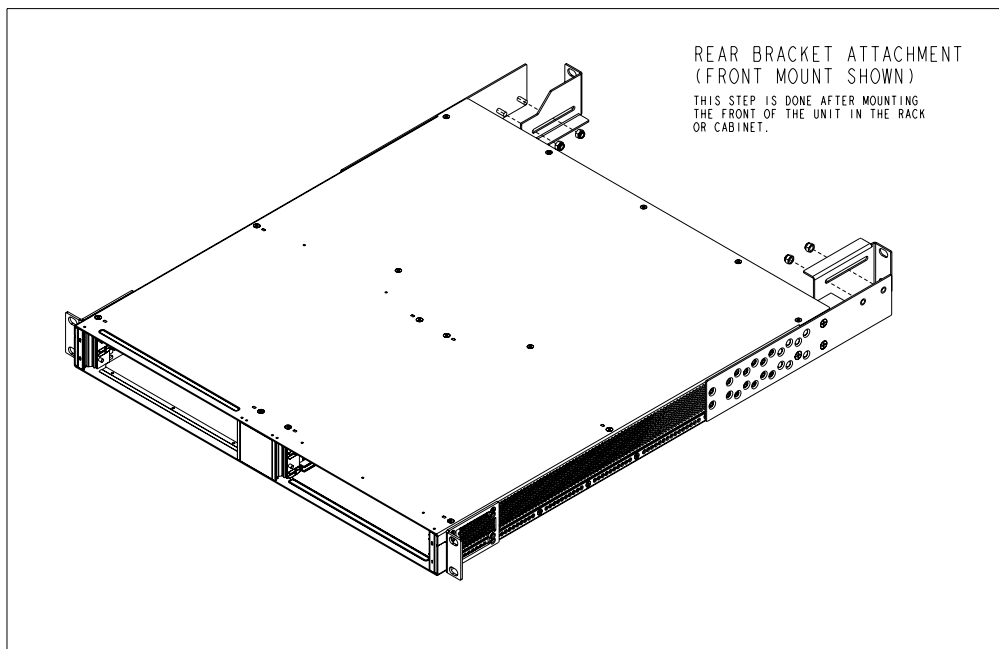

FIGURE 1-8 Rear Bracket Attachment for 9102/3
4. Install the extension brackets using M4 x 6mm screws. The extension bracket should be installed so that it is just in front of the rear mounting rail. (Refer to Figure 1-8.)
Note that the rear brackets, as shown in Figure 1-8, are rotationally symmetrical; when facing the rear of the unit, the flange is on the bottom on the right, and top on the left. (This allows adequate clearance for removal of the power converter if needed.)
3. The person behind the unit attaches the Rear Brackets as shown in Figure 1-8. Adjust the brackets so they are flush with the rear rack. Attach the four nuts loosely since they will move slightly when the rear mounting screws are turned.